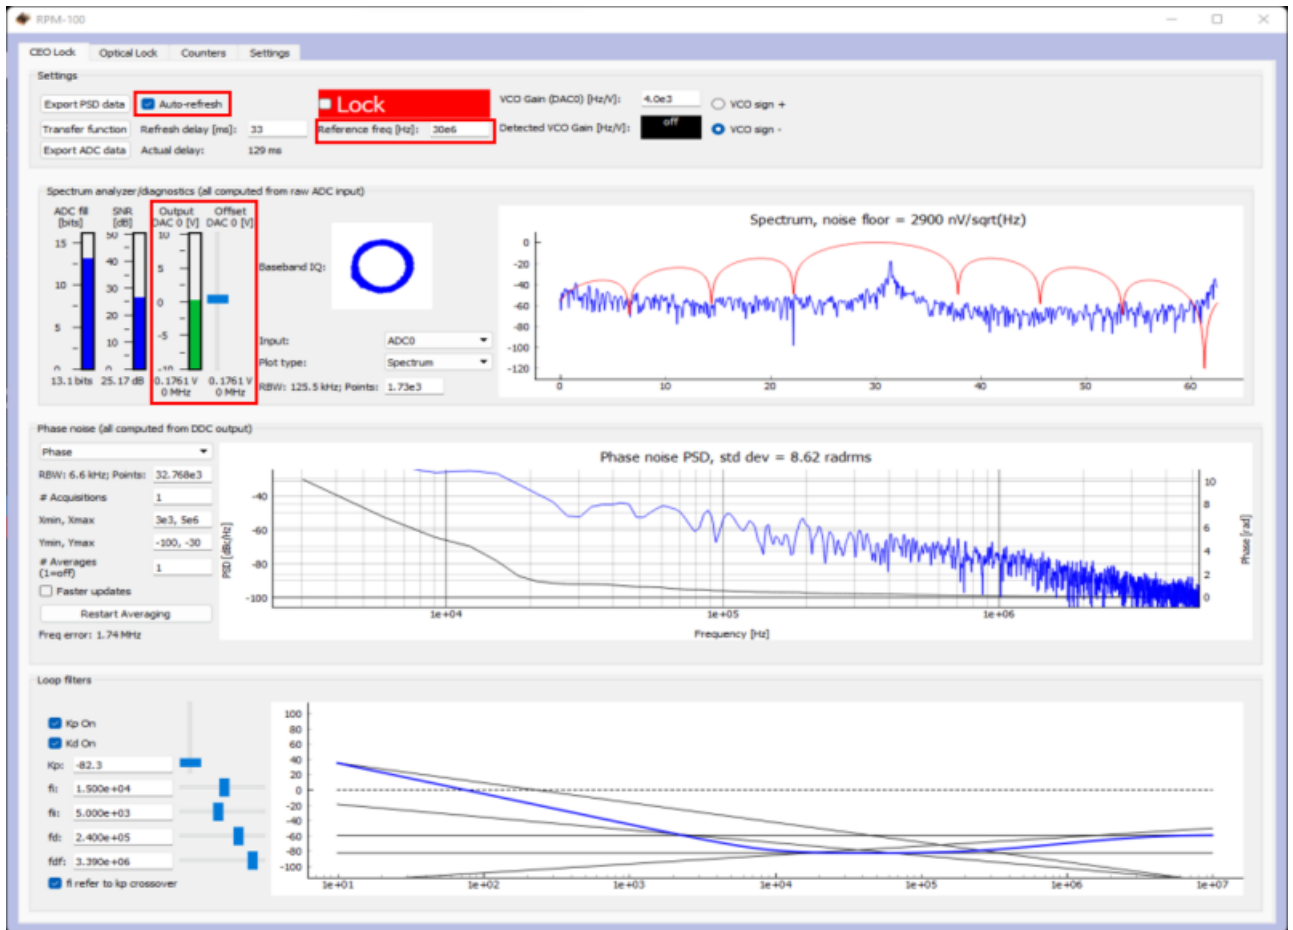

Fig. 9: Centering  $f(\text{CEO})$  on reference frequency (Baseband IQ optimization)
1. Navigate to the “CEO Lock” tab and enable the “Auto-refresh” button in the top left of the window. Set your desired RF lock frequency of the Fceo beatnote in the “Reference Frequency [Hz]” input. Adjust the “Offset DAC 0” slider near the top left by clicking and dragging the slider until the Beatnote is roughly centered in the red filter trace (figure 9). It is also possible to adjust the FFC-100 oscillator current on its front panel to make this adjustment.